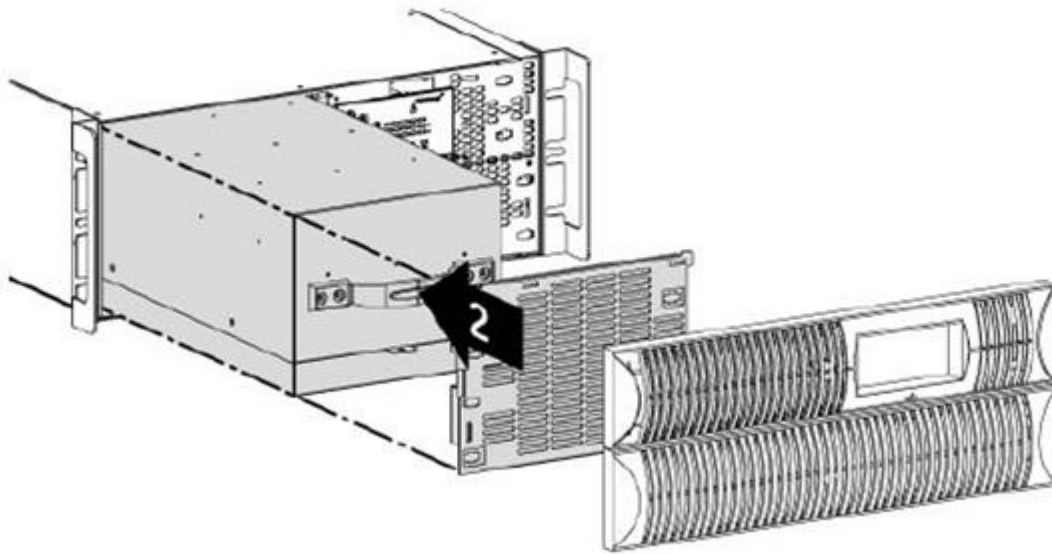

FIG 13 – XPRT-6KVA SLIDE BATTERY PACK INTO UPS
2. Place the battery pack in front of the battery compartment, aligning the rear connector to the front panel (see FIG 13).